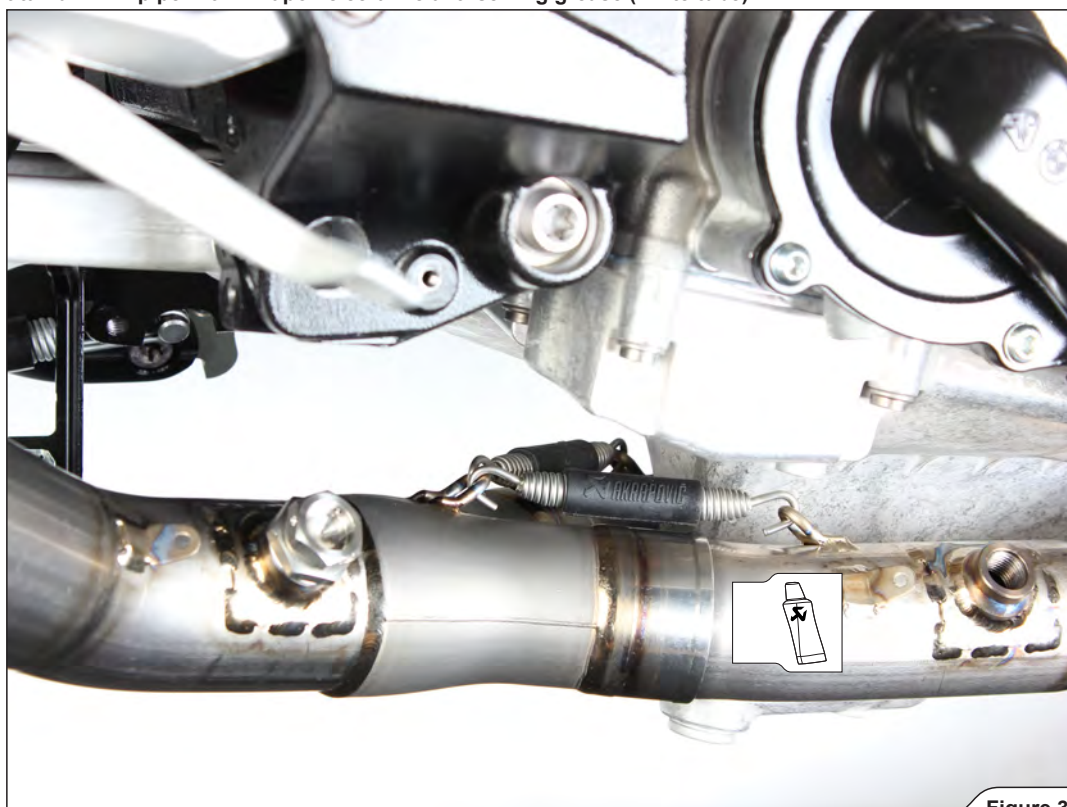

Figure 30
4. Slide the link pipe onto the collectors and attach the springs (**Figure 30**).